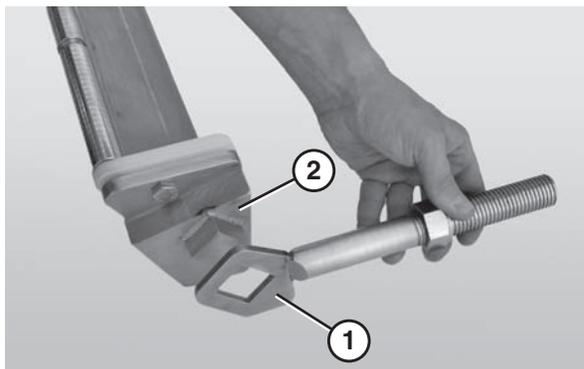

Figure 82
3. Slide the nose bar shafts (**Figure 82, item 1**) off of the nose bar weldment (**Figure 82, item 2**).